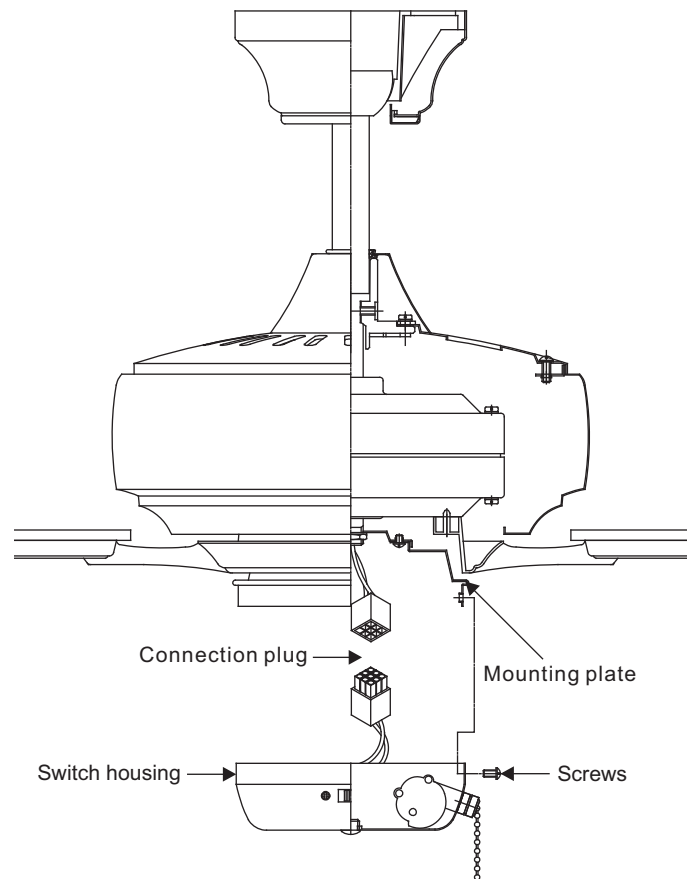

Figure 19
Step 2. While holding the switch housing under your fan, snap together the wire connection plug. (Figure 19)
Step 3. Raise the switch housing to the mounting plate until the holes in switch housing and mounting plate line up. Reinsert screws to secure in place. (Figure 19)